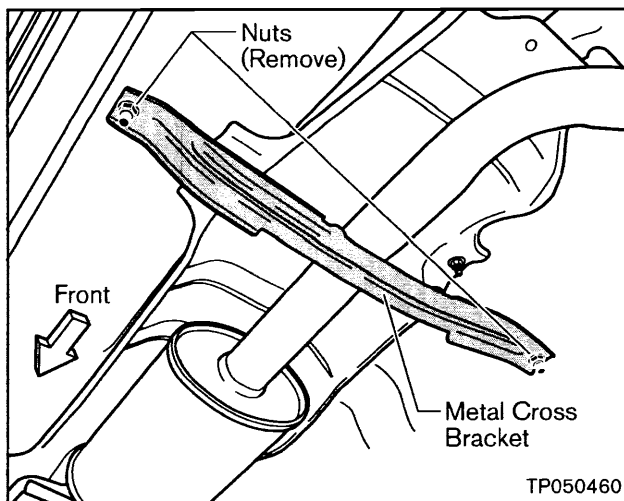

Figure 7a
- c. Remove two Nuts and remove the Metal Cross Bracket (see Figure 7a).